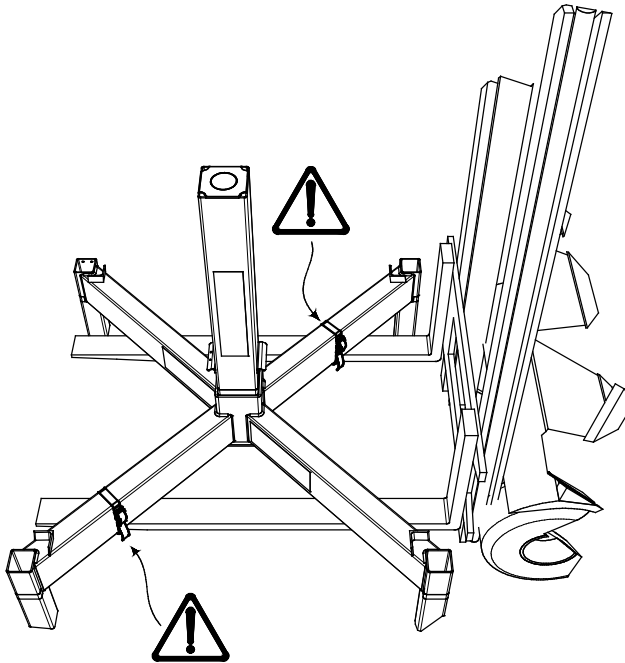

Figure 26. Use the included Combistraps to secure the Top Frame to the forks prior to lifting.
- Using a forklift truck, place the forks underneath the horizontal tubes of the Top Frame, spread the forks as wide as possible and then, if needed, secure the Top Frame assembly with the two supplied Combistraps before lifting. Straps shall be attached diagonally to each fork to ensure a safe lift, see Figure 26 below. Remember that the straps should be tightened firmly.